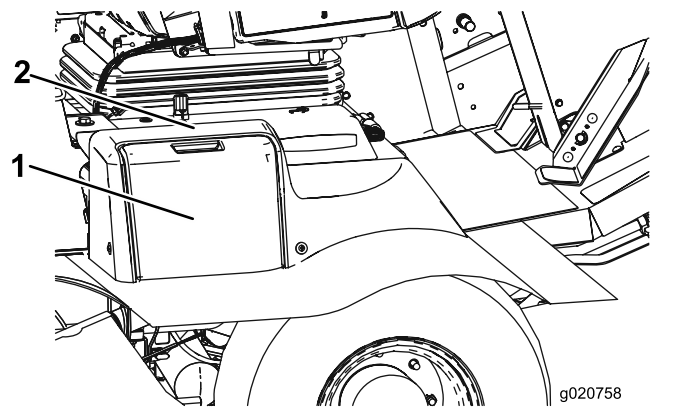

Figure 97
1. Open the battery cover on the side of the shroud (Figure 97).
**Note:** Press down on the flat surface above the battery cover to ease the removal of the cover (Figure 97).